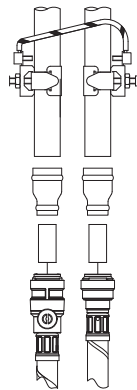

Fig. 13
- 4.15 **Adjacent pipes:** Adjacent suction and delivery pipes should be fitted with earthing clamps in accordance with current regulations (Fig. 13).